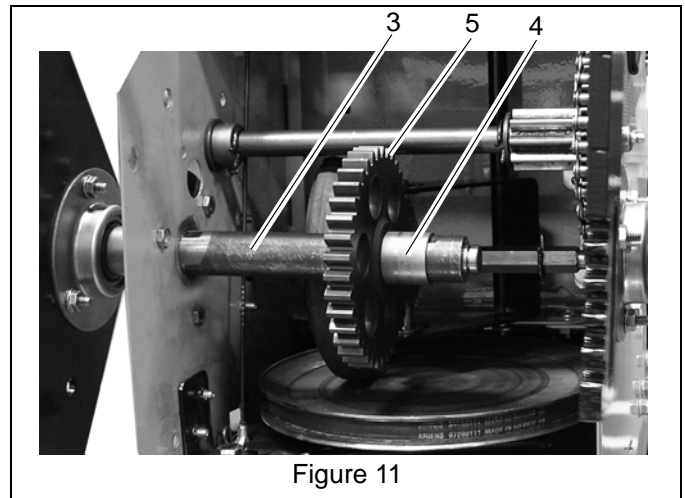

Figure 11
14. Install spur gear (item 5) onto track drive axle (item 3) followed by spacer (item 4). See Figure 11.